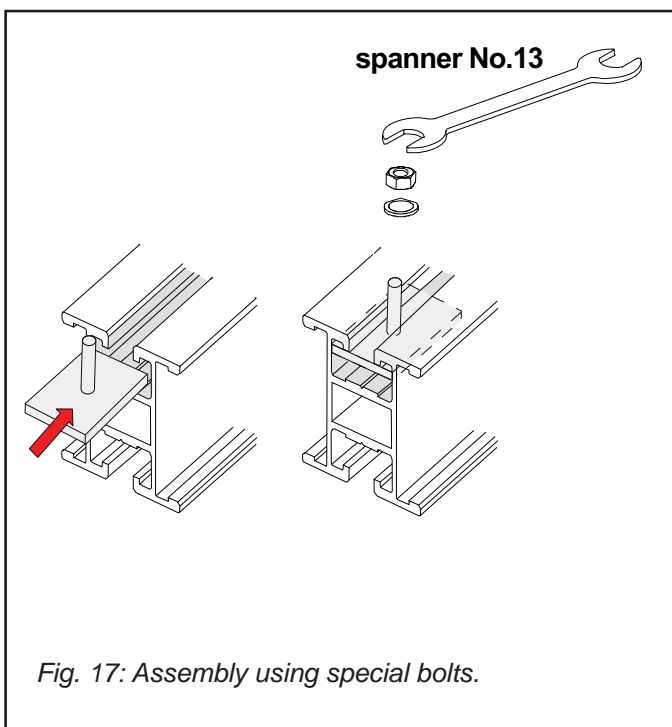

Fig. 17: Assembly using special bolts.
- Insert the M8 bolt with a special head (Fig. 17) into the rail grooves.
- Fix the L-support of the triangle to the base rail using screws, serrated lock washers and nuts for rails (Fig. 17) and tighten the connections.